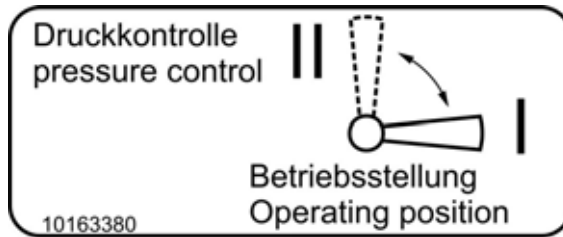

Fig. 287
- For machines with MPS, set the ball valve (2) (**Fig. 288**) to position (II): Pressure check (**Fig. 287**).